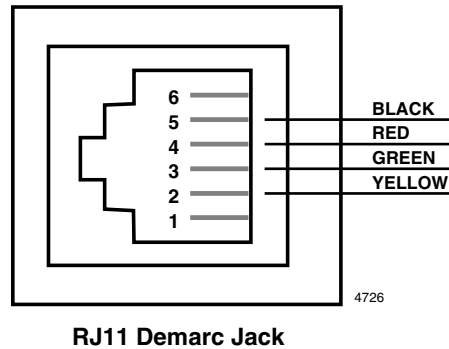

Figure 7-27 Six-pin Modular Plug (RJ11)
- The ISDN BRI-U wire pair is usually on the center pair of the Demarc jack, pins 3 and 4 on RJ11 and pins 4 and 5 on RJ45. Demarc coding is shown in Tables 7-13, 7-14 and 7-15. Typical demarc jack wiring is shown in Figures 7-27 and 7-28: